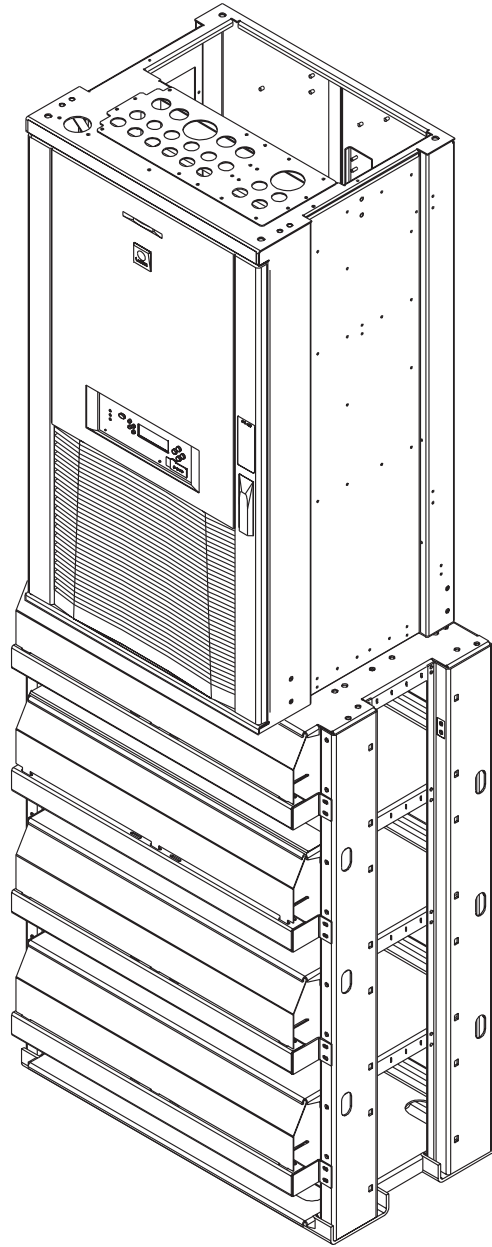

Figure 1-1: GPS 4812/24 Half Height Initial Cabinet (with Battery Stand)
Figure 1-1: GPS 4812/24 Half Height Initial Cabinet (with Battery Stand)	1-2
Figures 1-1 and 1-2 illustrate the GPS 4812/24 half height and full height cabinets.
- The half height cabinet, shown in Figures 1-1 and 2-2, mounts on top of a battery stand and can provide up to 800 amperes of dc power.